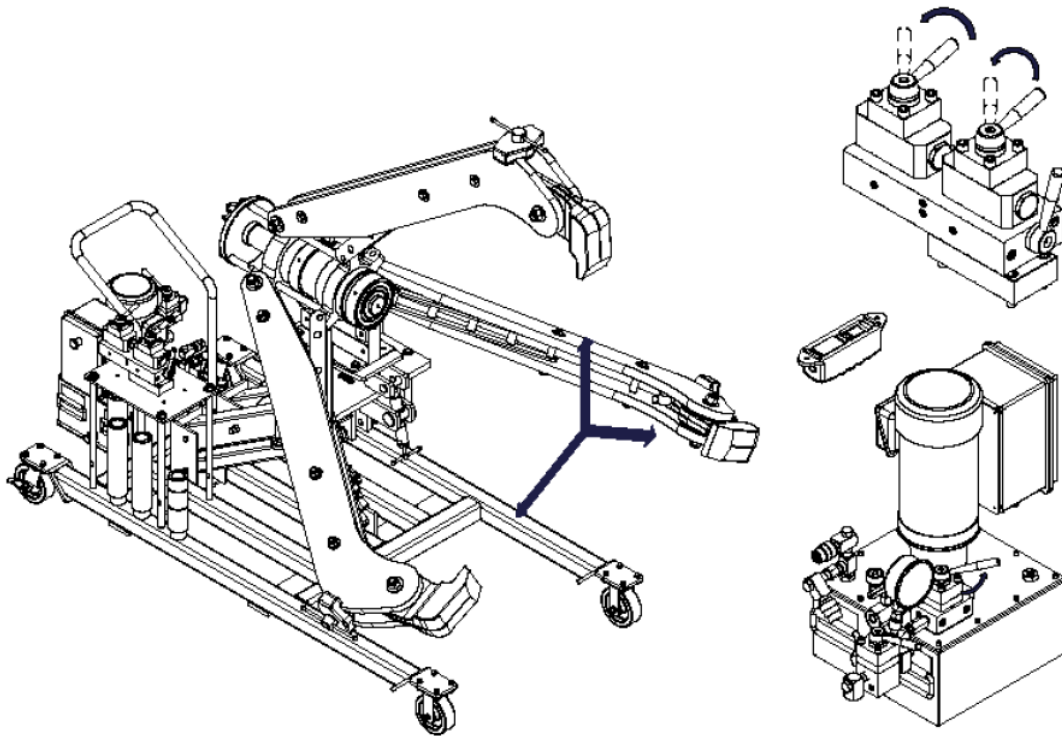

Figure 2 – Adjusting the Puller Arms
- 5.3.1 Switch the control panel valve handles (see Figure 2) and press the button on the remote switch to open the jaws enough to fit over the work.